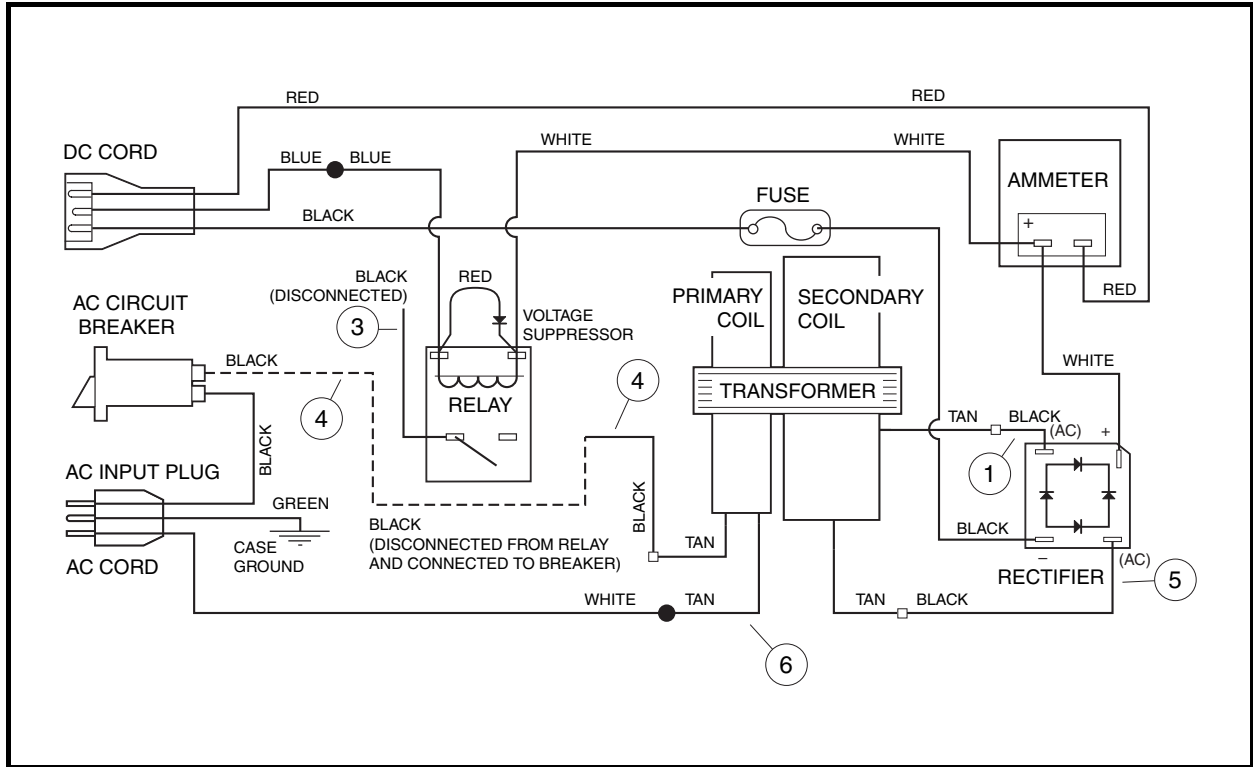

Figure 5-21 PowerDrive 2 Charger Wiring Diagram (Relay Bypassed)
- 4.1. To bypass the relay, remove the black wire (3) from the AC circuit breaker and disconnect the black wire (4) from the relay. Connect the black wire (4) to the AC circuit breaker (**Figure 5-21, Page 5-31**). **See following DANGER.**
8. Disconnect the transformer wire (4) from AC circuit breaker and connect it to the relay. Connect the short black wire (3) from the relay to the AC circuit breaker (**Figure 5-21, Page 5-31**). **See following WARNING.**